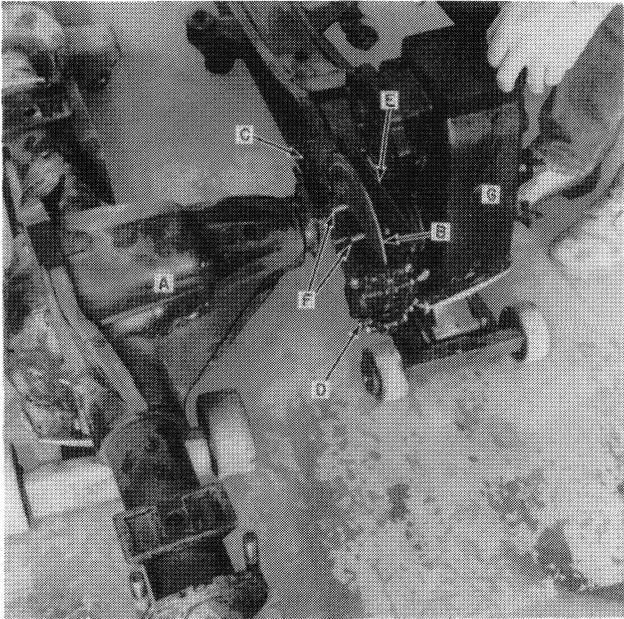

FIGURE 1-7
Figure 1-7 shows the differential, A, brake disc, B, mechanical caliper, C, hydraulic caliper, D, brake mounting bracket, E, brake disc mounting bolts, F, and the transfer gearbox, G, all removed from the machine for pictures only. It is not necessary to remove these completely from the machine as shown.
2. Remove the nuts from the brake mounting bolts, F, Figure 1-7. Also see F, Figure 1-1.
10. Shift the rear axle back into position and push bolts, Figure 1-7, through the drive flange. Use a new Class C fine thread nut, F, Figure 1-7 and 1-1. Tighten to 75 ft. lbs. (101 N·m) torque.